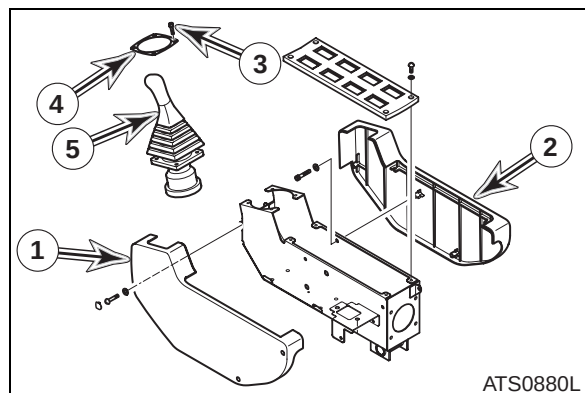

Figure 4
11. Remove left and right control stand case (1 and 2, Figure 4).
12. Remove four socket bolts (3, Figure 4) holding joystick (5, Figure 4) to stand bracket.
13. Remove plate (4, Figure 4).
14. Using hand, lift joystick (5, Figure 4).